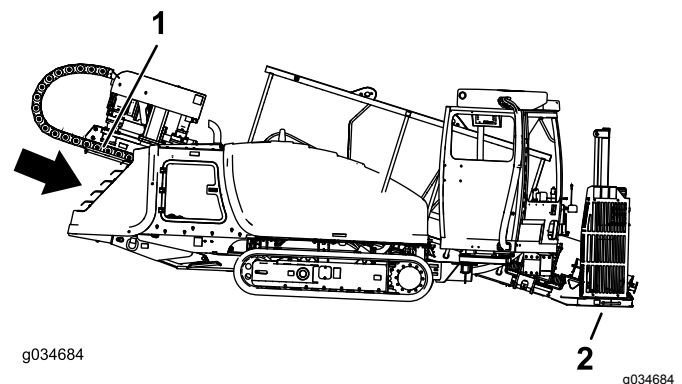

Figure 45
4. Lower the thrust frame, tilting the drill frame until the plate contacts the ground (Figure 45).